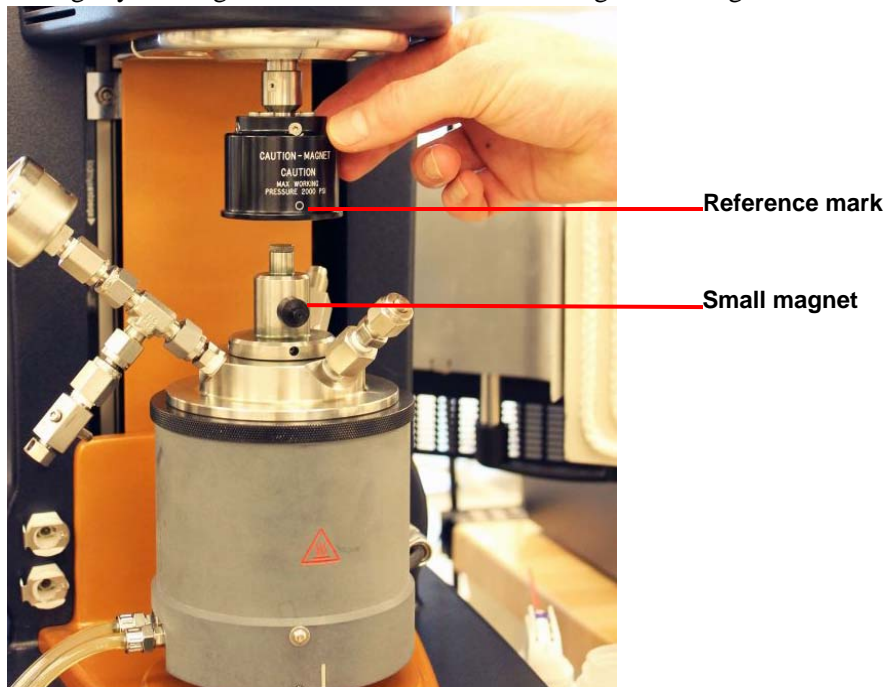

Figure 19 Aligning the reference mark.
- 8 Rotate the draw rod so the magnet assembly reference mark is aligned with the small magnet on the Rotor. Ensure that the reference mark on the upper geometry remains aligned with the small magnet by lightly holding the rheometer draw rod and begin lowering the rheometer head as shown in Figure 19.